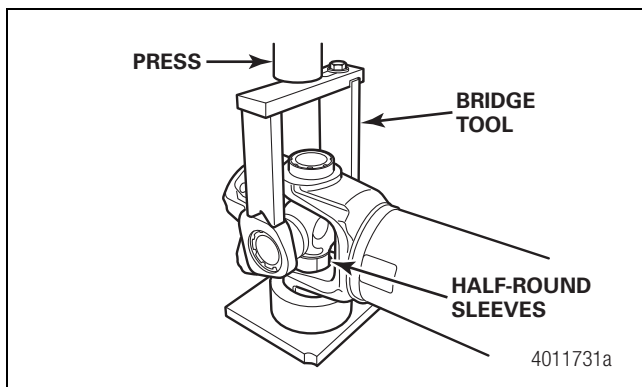

Figure 4.51
8. Install the drive flange assembly back into the bearing cup receiver. Refer to Section 14 for a tool drawing. Figure 4.51.